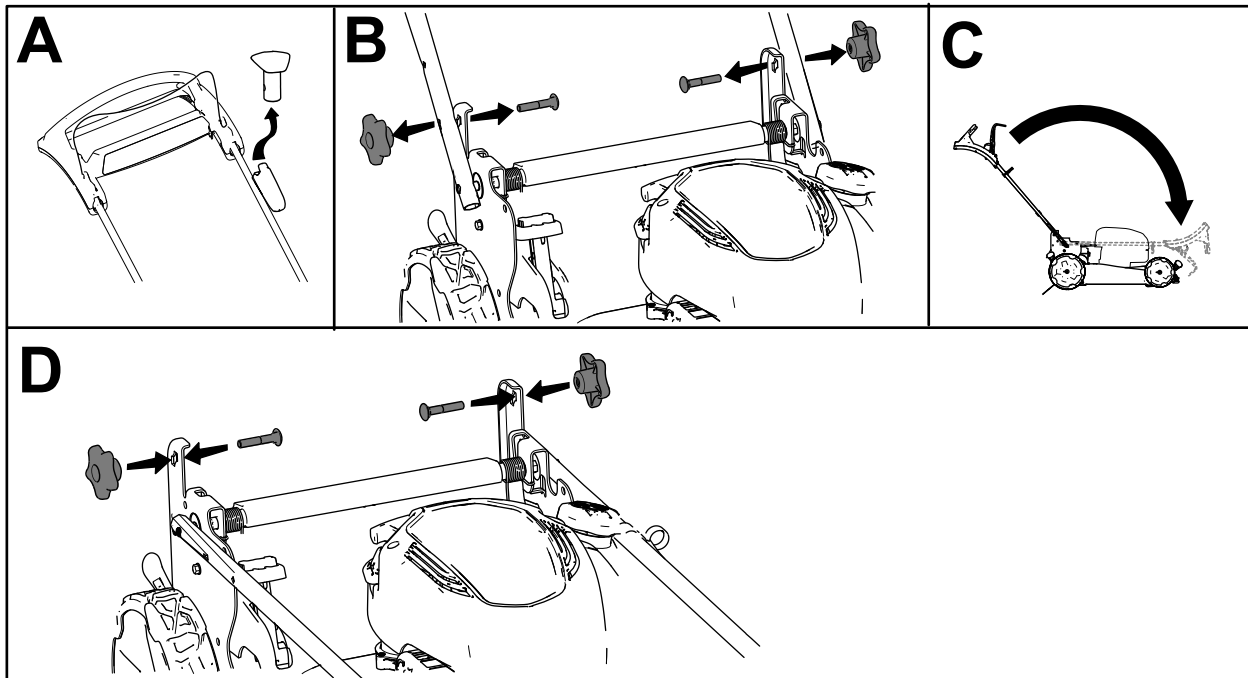

Figure 20
1. Remove the electric-start button (if equipped) as shown in A of Figure 20.
2. Remove and save the 2 handle knobs and 2 carriage bolts from the handle brackets (B of Figure 20).
3. Fold the handle by rotating it forward (C of Figure 20).
4. Loosely install the handle knobs and carriage bolts on the handle brackets (D of Figure 20).